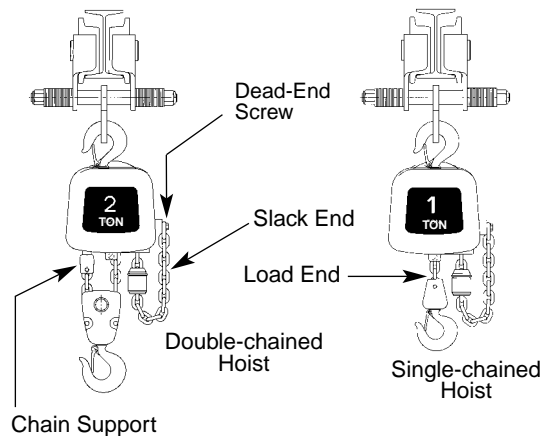

Figure 4 — Chain Replacement Diagram
4. Remove the load block assembly from the old chain. On double-chained hoists detach the chain from the chain support and pull it through the load block assembly (See Figure 4).
Refer to Figures 4 and 5.
- Lay the new chain over the load sheave. Allow about 15" of chain below the hoist on the slack end (See Figure 4). Be sure the welds of the upstanding links are out away from the load sheave and that proper orientation is observed for attachment of the dead end. Also be sure the load hook assembly (if already attached to the chain) is toward the center of the hoist or to your right as you face the load sheave.
- Place the motor coupling on the splined shaft and carefully fit the two hoist sections together. Be sure the dead-end nut, the top hook and the chain support (double-chained hoists only) are all in place. On single-chained hoists, the hook shank goes in the center hole; on double-chained hoists, it goes in the off-center hole (See Figure 4). Be careful not to pinch any of the wiring. Turn the hoist on its side and replace the four screws and tighten securely.